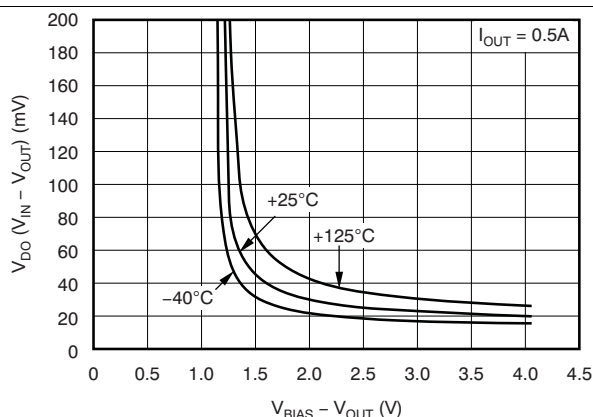

Figure 6. Dropout Voltage vs $(V_{BIAS} - V_{OUT})$ and Temperature (T_J)
(1) Adjustable devices tested at 0.8 V; resistor tolerance is not taken into account.
(2) Dropout is defined as the voltage from V_{IN} to V_{OUT} when V_{OUT} is 3% less than nominal.
(3) 1.62 V is a test condition of this device and can be adjusted by referring to Figure 6.